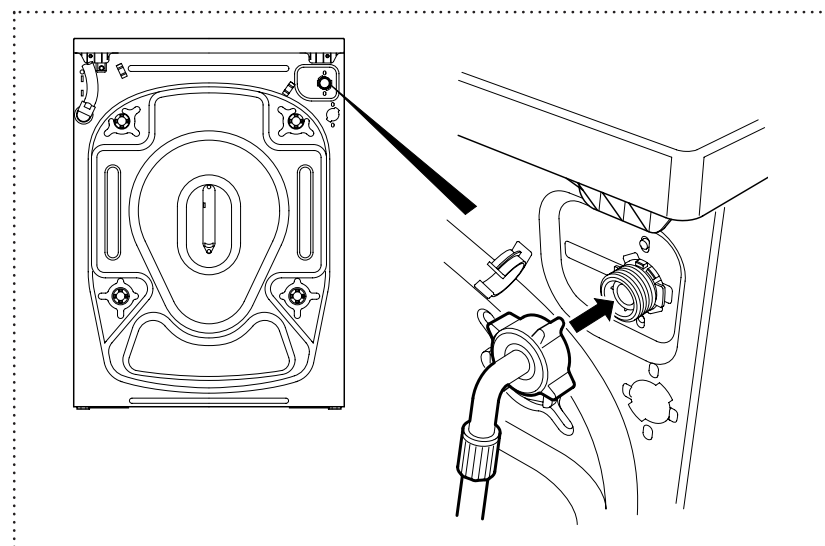

Figure 7
- 1 Connect the angled end of the fill hose to the cold water inlet on the rear of your Washing Machine by screwing the threaded connector clockwise (fig 7). Take care not to overtighten the connection. Hand tight is sufficient.